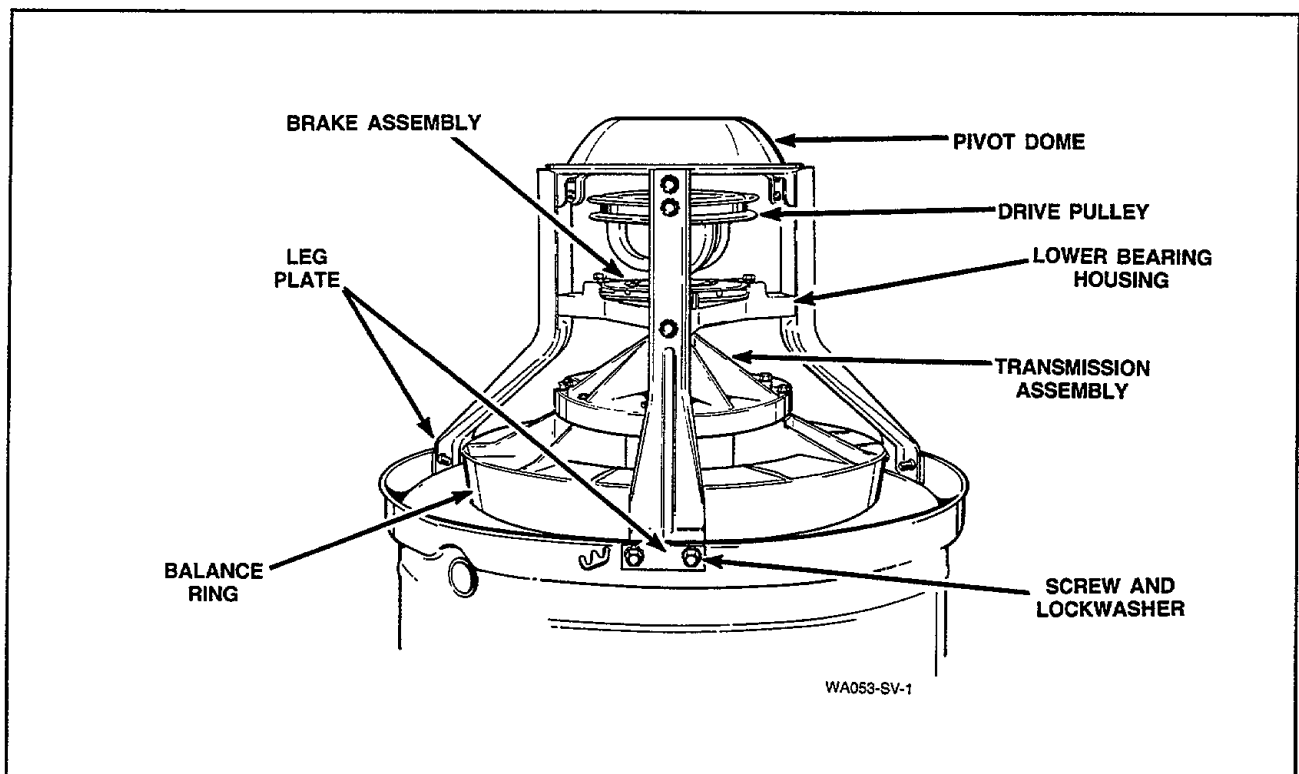

Figure 42
- t. Remove screws and lockwashers holding each support leg to outer tub, *Figure 42*. Then lift transmission, balance ring and pivot dome off tub.